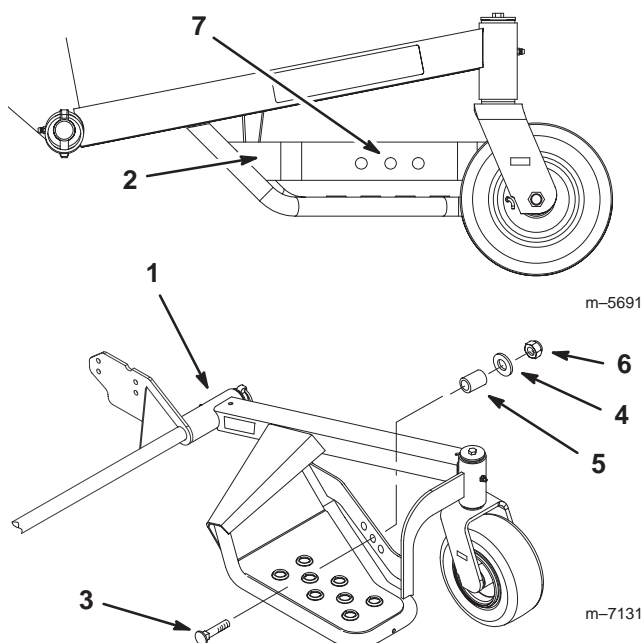

Figure 10
1. For the adjustment bolt, install the nut (5/16 inch), small washer, spacer and bolt (5/16 x 1-1/4 inch) into the center hole (Fig. 10).